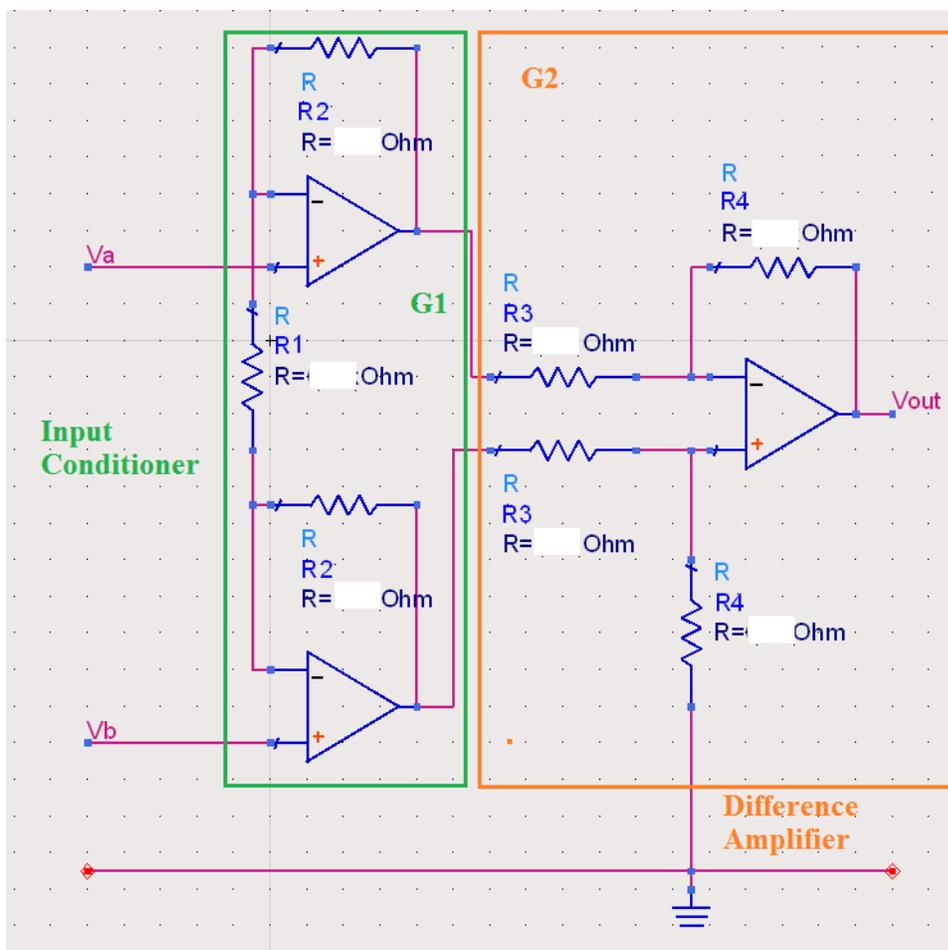
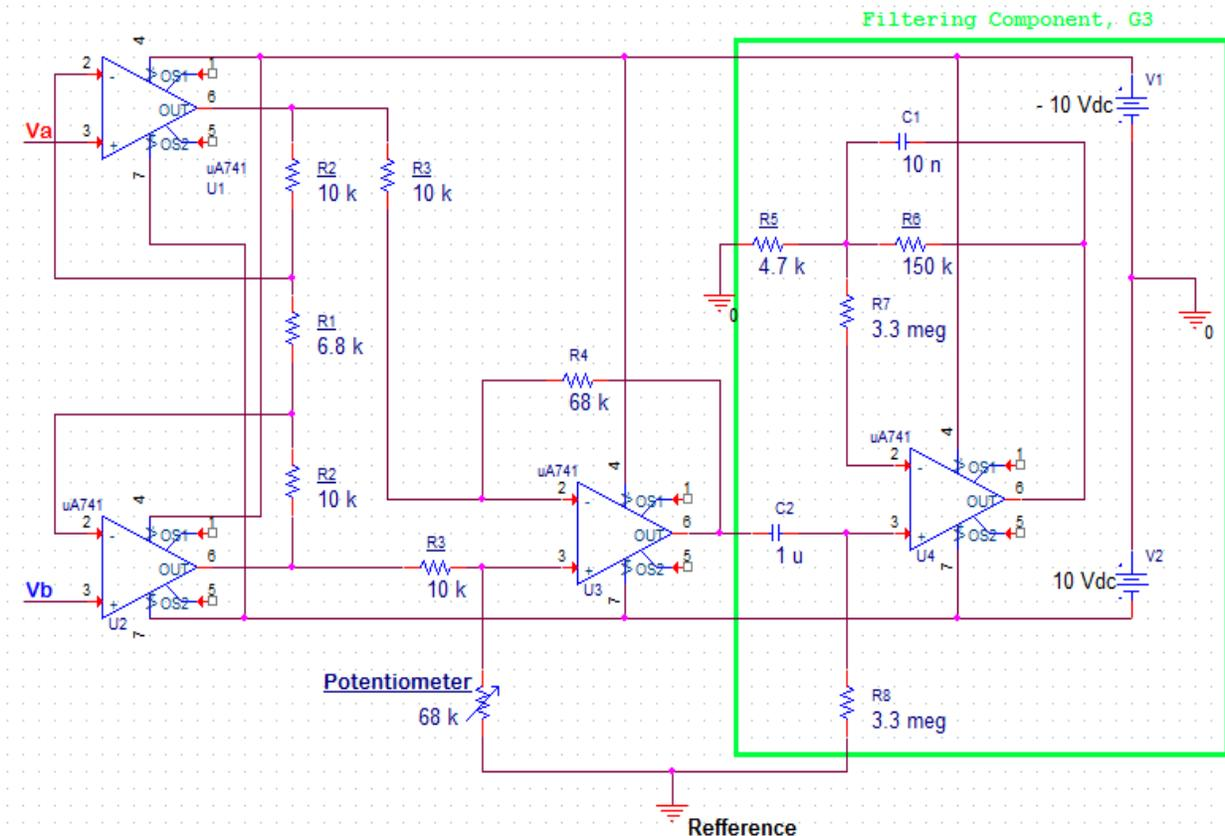

Figure 3: 3-lead Differential Amplifier schematic
Figure 4. ECG amplifier with filter
(Refer to Figure 3 for resistors numbers):
- III. Build the circuit of Figure 3 using your chosen resistors' values. To test the differential gain of your circuit (A_d), connect the positive pin the function generator to V_a and ground its negative pin. V_b input should also be grounded. Your input signal should be a 60 Hz sine wave of 5 mV peak-to-peak amplitude. Calculate gain using the output and input signals amplitudes from the obtained oscilloscope image:
- I. In order to obtain a better image of an ECG signal it is very important to get rid of interference. The ability of our differential amplifier to reduce the common mode input helps to reject the electrical power system interference. For additional noise reduction a filtering component has to be added to the main circuit. Filter is meant to amplify the signals of desired frequency range while keeping the inputs of undesired frequency ranges unchanged (filtering them out). Figure 4 represents an ECG amplifier, obtained by adding a filter to the circuit of Figure 3 and changing the resistors values so that the total gain of the amplifier G_T remains close to 1000 V/V.
- II. Calculate the theoretical gain value of the circuit in Figure 4:
- III. Build the circuit of Figure 4. Calculate the cut-off frequency of the filter, using equation (5) provided below: